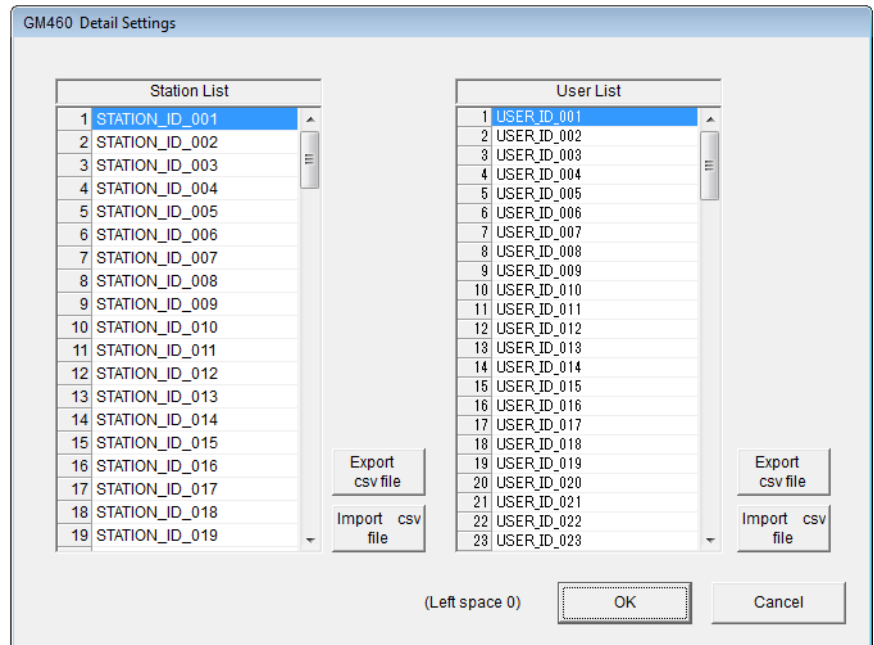

Figure 73: Detail Settings Window
1. Click the **Detail Settings** button in the Set window. If you do not currently have any User IDs or Station IDs programmed into the instrument, the screen will appear as shown below in Figure 73.